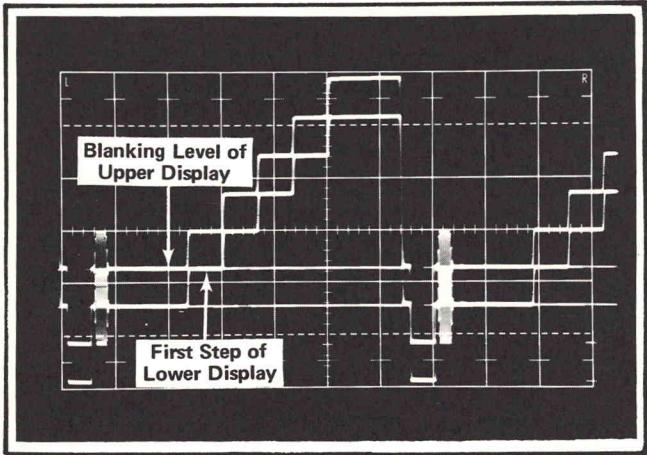

Fig. 5-36. Typical display to check or adjust staircase amplitudes.
- Observing the test oscilloscope display, rotate the 067-0596-00 calibration fixture V_2 Volts control until the first staircase level of the lower display aligns with the blanking level of the upper display as shown in Fig. 5-36.